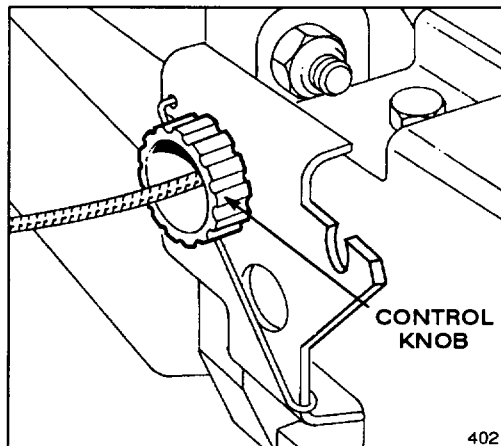

Figure 24
2. **ADJUSTMENT** (Fig. 24)—Rotate control knob clockwise 1/2 turn if mower does not self-propel. If mower creeps forward, rotate knob 1/2 turn counterclockwise to loosen belt.